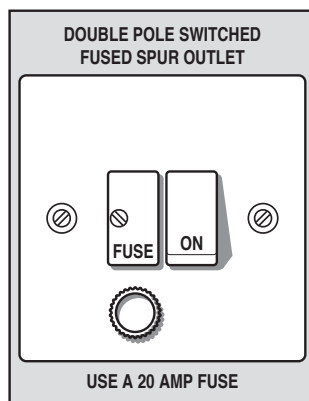
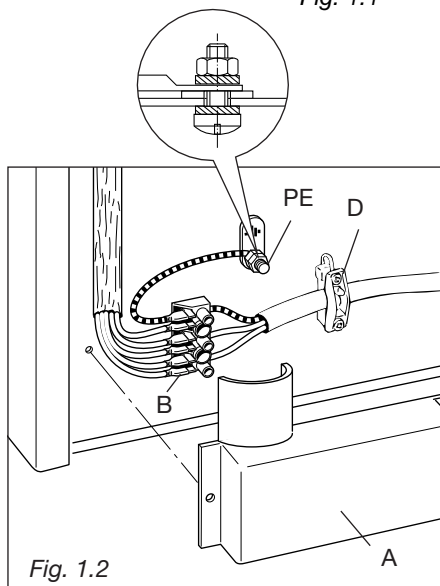

Fig. 1.1
Fig. 1.2
This appliance must be connected to a double pole isolating switch (fig. 1.1) and to the terminal block in the cooker (figs. 1.2, & 1.3) using the following guide:
- Remove the screw that hold shield "A" behind the cooker (fig. 1.2).